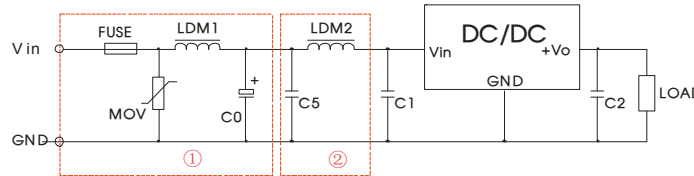

Fig. 5 Recommended compliance circuit
| Emissions | CE | CISPR32/EN55032 CLASS B (see Fig. 5-② for recommended circuit) | |
| | RE | CISPR32/EN55032 CLASS B (see Fig. 5-② for recommended circuit) | |
| | EFT | IEC/EN 61000-4-4 | $\pm 1\text{kV}$ (see Fig. 5-① for recommended circuit) perf. Criteria B |
Note: For EMC tests we use Part ① in Fig. 5 for immunity and part ② for emissions test. Selecting based on needs.